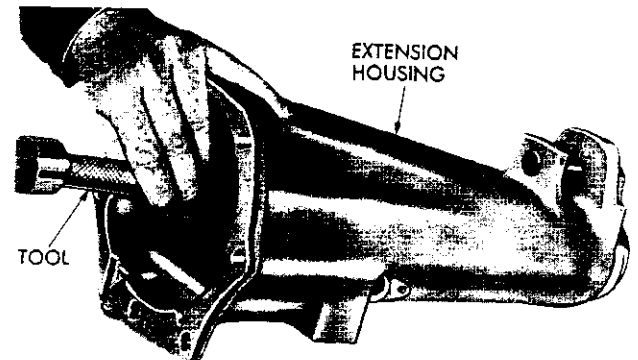

Fig. 38—Removing Output Shaft Bearing
(1) Pry or drive the oil seal out of extension housing with a long blunt drift. Be sure not to mar oil seal surface in the housing.
(2) Remove the bearing snap ring from the extension housing. Drive the bearing rearward out of housing with Tool C-3275 (Fig. 38).